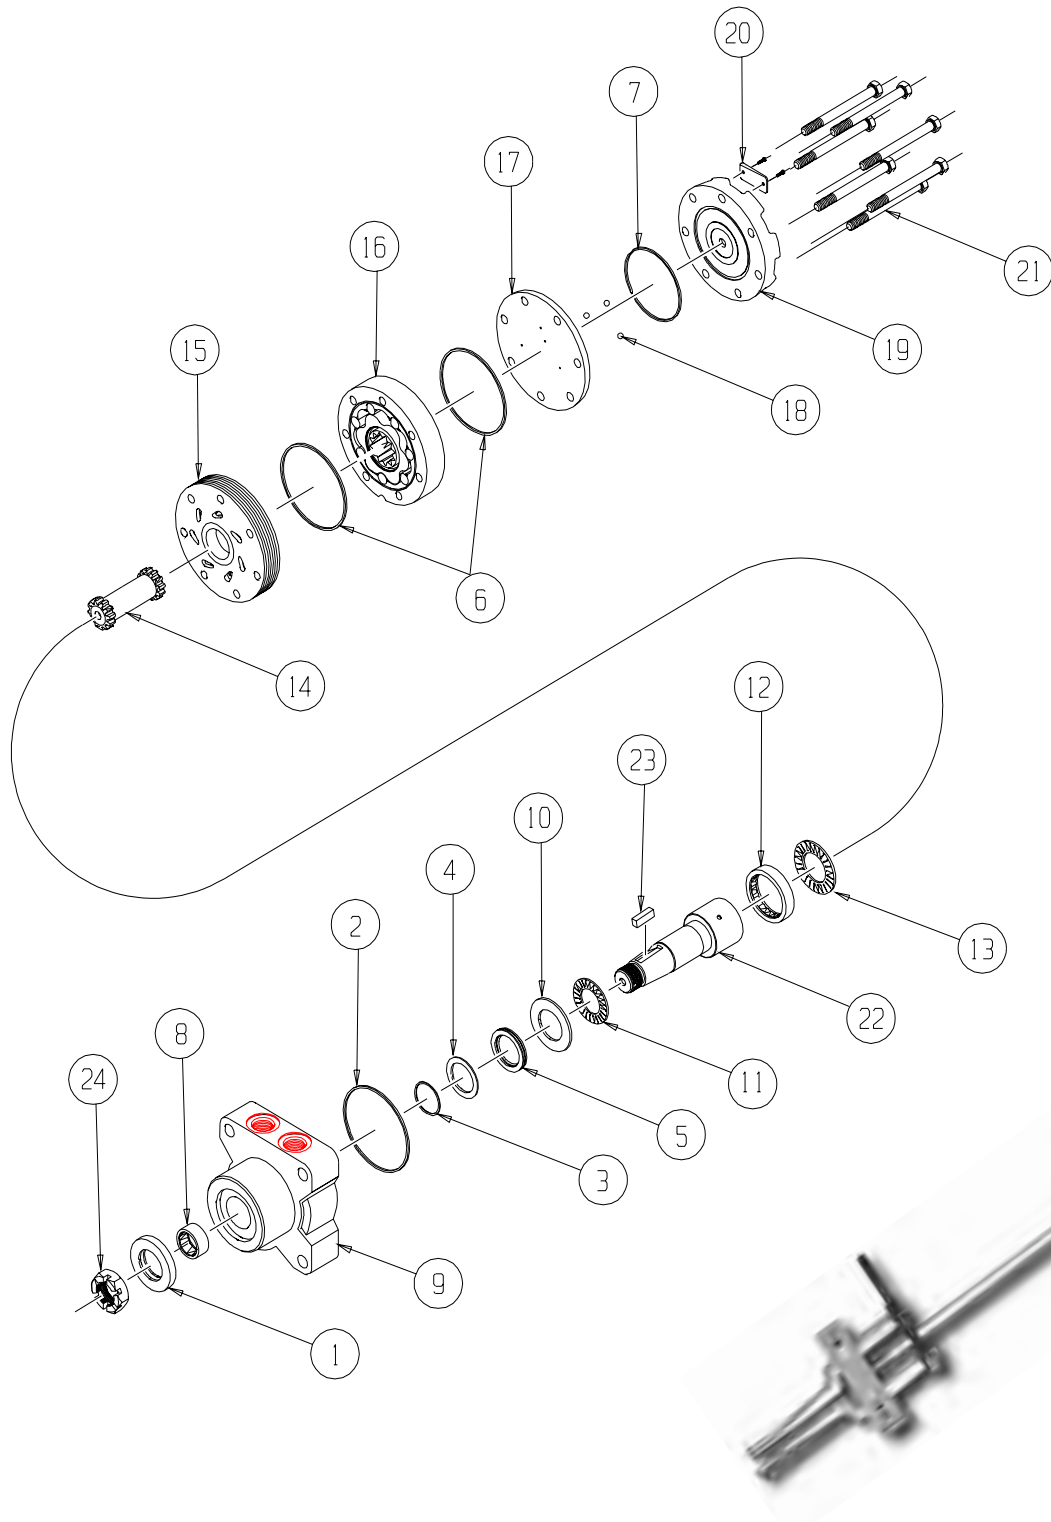

FIGURE 1
- A) Remove all shaft components from the shaft, (22), (i.e., keys, wire rings, nuts). To aid in reassembly of the motor, make a "V" shaped set of lines from the endcover to the housing using either paint or a marker. With the shaft facing down, secure the motor in a vise by clamping onto the housing, (9). Loosen and remove the seven bolts, (21), holding the motor assembly together. Remove the endcover, (19), from the motor.
- B) Remove the balance plate, (17), rotor set, (16), and the manifold, (15), from the motor. Remove all seals from the components and discard. **(Caution - when removing the balance plate, do not allow the three check balls, (18), to fall out of the plate.) (Caution - do not allow the rolls to drop out of the rotor set assembly when removing it from the motor.)** Remove drive link, (14), from the motor and lay aside. Remove the thrust bearing, (13), from the housing and lay aside. From the front of the housing, gently tap the shaft, (22), upward and remove through the rear of the housing.
- C) Using a slide and hammer type bearing puller, (see Figure 1), remove the rear housing bearing, (12), from the housing. Remove the thrust bearing, (11), and lay aside, remove the thrust washer, (10), and lay aside. Remove the shaft seal, (5), and discard, remove the back-up seal, (4), and discard, remove the metal shim, (3), and discard. Turn the housing over and remove the dust seal (1).
- E) Place the integral thrust washer/bearing, (11), onto the shaft. The washer side should be against the shoulder of the shaft. Place a thrust washer, (10), onto the shaft on top of the thrust bearing. Coat the shaft seal, (5), with a light coat of oil and install onto the shaft with the lip side down. Place a light coat of oil on the back-up seal, (4), and place over the shaft seal. Place the metal back-up shim, (3), over the back-up seal.
- G) The rear bearing is now ready to be installed. With the writing side of the bearing facing up, place the bearing, (12), into the housing bore. Using a hand press, the bearing should be pressed into the bore. It is necessary that the bearing be pressed .120 - .130" deep into the bore of the housing to accommodate the width of the thrust bearing.
- H) Install a thrust bearing, (13), on top of the shaft.
- I) Install a lightly oiled body seal, (2), into the seal groove in the housing. Make sure that this seal is in the seal groove and protruding approximately .007" over the top of the housing surface. **(Caution - if a bump is felt in the seal, remove the seal and make sure that there is no grit on the seal or in the seal groove.)**
- J) Install the drive link, (14), into the housing. The proper end of the drive link has a "hat" machined in the top of the drive link on the **07-16** displacement. The drive link is to be placed in the shaft with the hat facing up on these displacements. The **18** displacements and above have a symmetrical head and either end can be put into the motor. Once the drive link has been installed, the shaft can be seated. This is done by bringing the arbor of the hand press down and putting pressure on the drive link. **(Caution - do not use excessive pressure as this could deform the thrust bearing and/or bearing races.)**
- K) Place the manifold, (15), (seven teardrop hole side down) on the housing. Line the bolt hole notches in the outside diameter of the manifold up with the seven bolt holes in the housing.
- L) Install two oil coated body seals, (6), one on each side, into the seal grooves of the rotor set, (16). Place the deep groove side of the of the rotor set down on the manifold, (15).
- M) Place the balance plate, (17), on top of the rotor set with the check balls, (18), up. If the check balls were removed, install three check balls into the countersunk holes in the balance plate, one ball per hole.